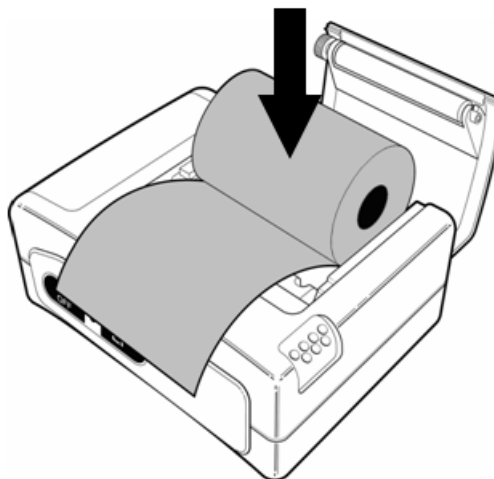

Figure 56: Paper Installation
- Place the new paper roll as shown on the illustration and pull out enough paper to reach out over the control panel of the Printer (see Figure 56, page 88).